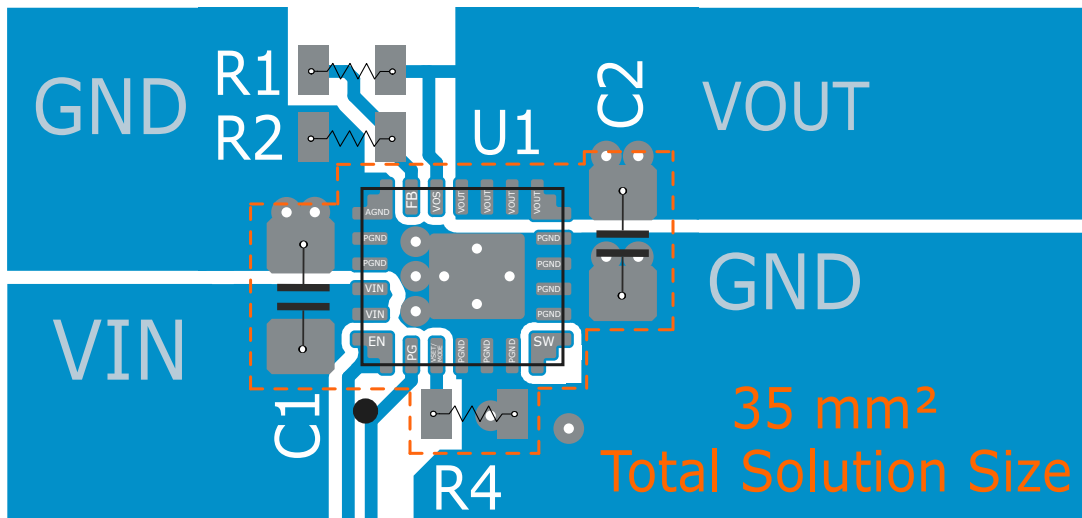

Figure 9-34. Layout Example
- Refer to Figure 9-34 for an example of component placement, routing, and thermal design.